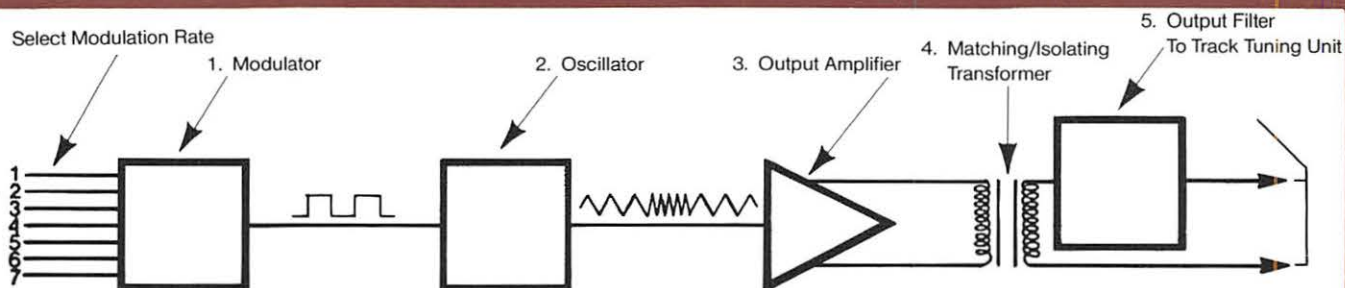

Fig. 3 — Transmitter Block Diagram
A block diagram of the transmitter is shown in Fig. 3. A modulator (1) produces a modulating frequency in the range 2 to 8 Hz, dependent upon external connections. When a connection is made between terminals (6) and (7), for example, a modulating frequency of 8.0 Hz is produced. This signal modulates the output of the oscillator (2) and so produces a signal frequency modulated at 8 cycles per second.